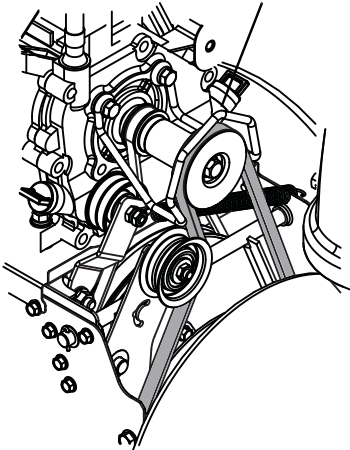

Figure 29
1. With the clutch lever disengaged, brake pad must contact attachment belt. With clutch lever engaged, brake pad must be more than  $1/16$  in. (1.6 mm) from belt. If there is more than  $1/16$  in. (1.6 mm) gap, go to *Check Belt Finger Clearance (Figure 29)* on page 25. If there is less than  $1/16$  in. (1.6 mm) gap, go to Step 2.
## Check Belt Finger Clearance (Figure 29)